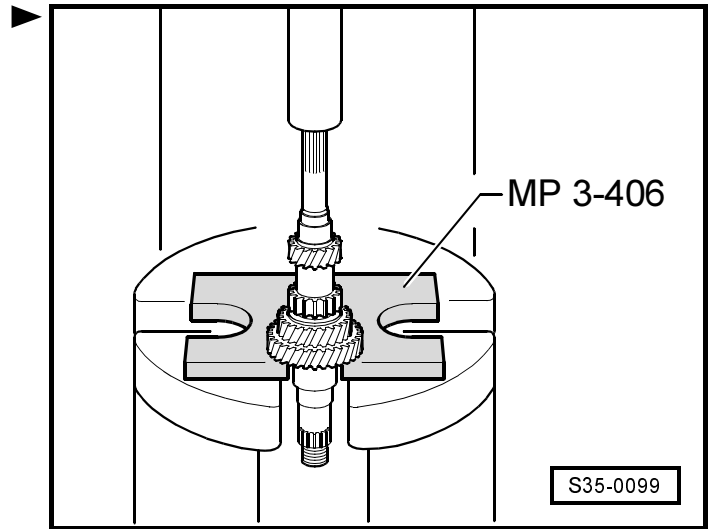

Fig. 6: Heat 4th gear pinion to approx. 100 °C and press on.
- pressing on ⇒ Fig. 6 in **35-1** page 4